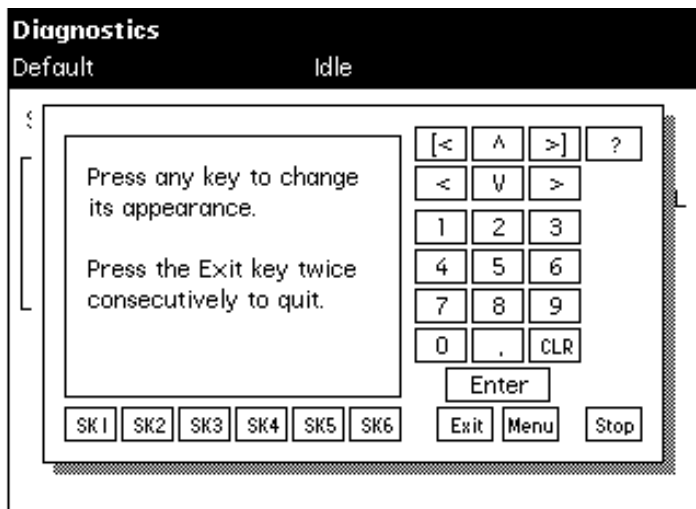

Figure 8-16 Keypad Diagnostic Screen
1. Select **Keypad** in the Other Diagnostics screen, then press **OK**. The Keypad diagnostic screen appears (Figure 8-16).